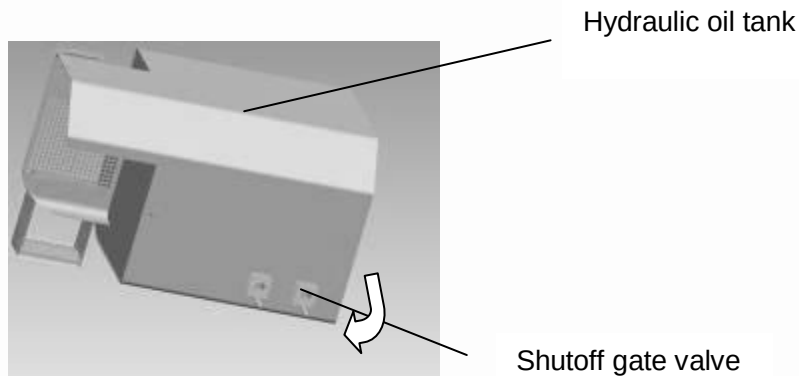

Figure 07 – 1 Hydraulic Oil Tank
(1) Do the steps below before you operate the PTO:
(2) Engage the PTO.
- (b) Turn the handle of the shutoff gate valve on the hydraulic oil tank in the direction shown. Refer to Figure 07 – 1.